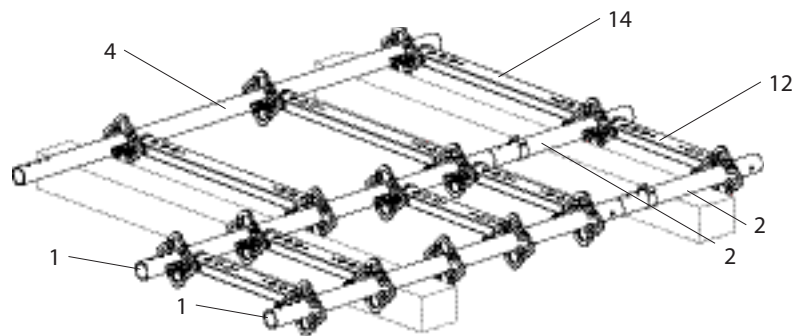

Fig. A1.02
3. Build the frames from top standards (1 / 2 / 4) and horizontal ledgers (12 / 14) as shown in the illustration. (Fig. A1.02)